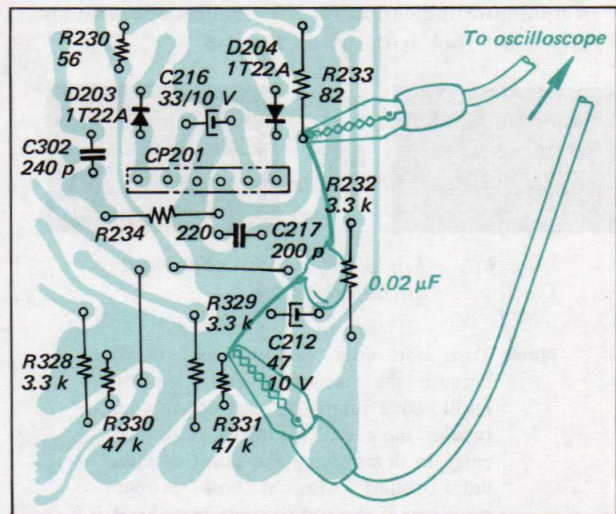

Fig. 3-3. Fm discriminator output connection
1. Connect the input cable of the oscilloscope with alligator clips to R233 and ground on the fm (a-m) front-end/i-f amp/MPX board, and solder a 0.02µF capacitor across these clips as shown in Fig. 3-3.